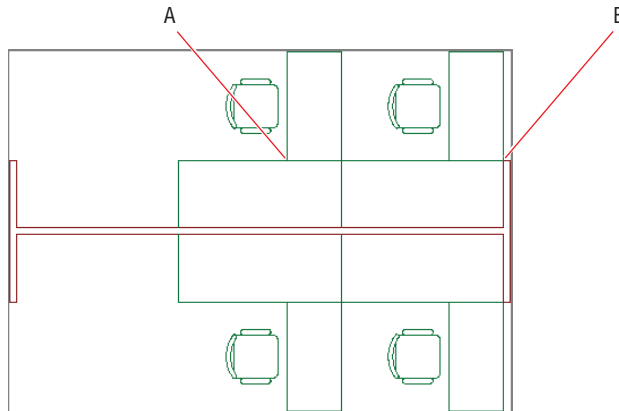

FIGURE 4.12 Copying multiple items
9. Press the spacebar to repeat the previous command, select both desks and chairs with crossing windows, and press Enter. Select point A in Figure 4.12 as the base point and point B as the second point. Press Esc to end the command.